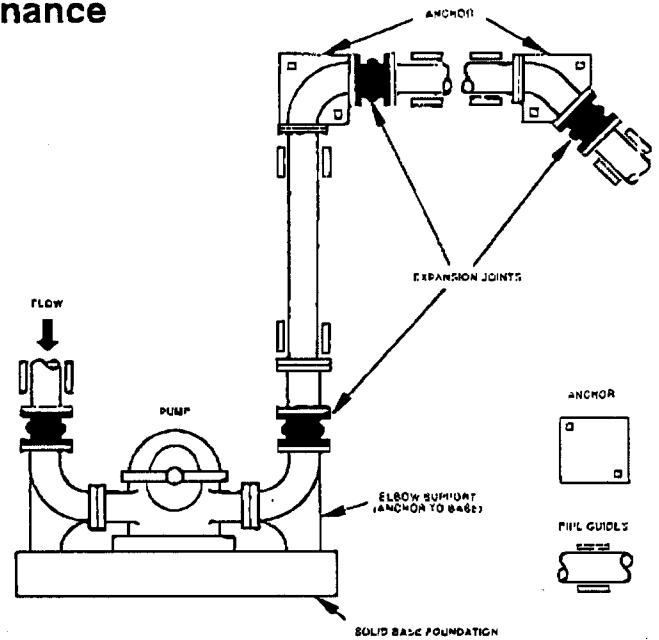
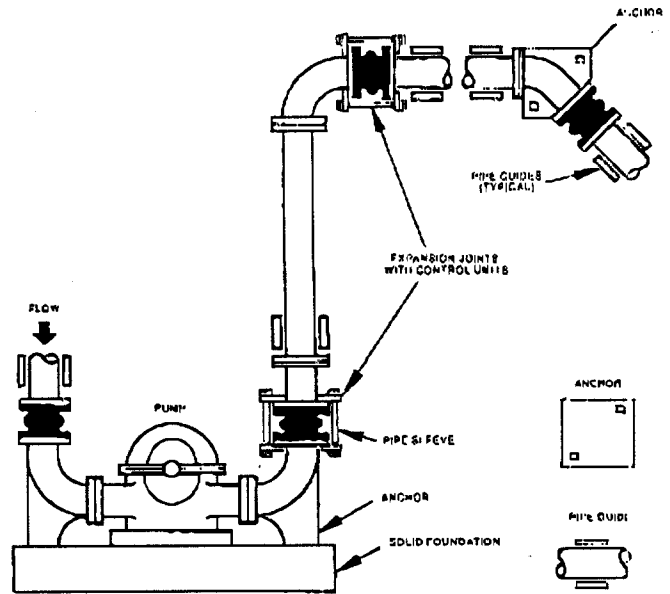

Figure 5A: Typical Piping Layout Utilizing Expansion Joints When Equipment And Piping Are Properly Anchored
Figure 5C: Typical Piping Layout Showing The Use Of Control Units With The Expansion Joints When Proper System Anchoring Is Limited
A.1. Anchors Are Required. Figure 5A illustrates a simple piping system. You will notice that in all cases solid anchoring is provided wherever the pipeline changes direction and that the expansion joints in that line are located as close as possible to those anchor points. In addition, following the expansion joints, and again as close as is practical, pipe guides are employed to prevent displacement of the pipeline. It should be pointed out that the elbows adjacent to the pump are securely supported by the pump base so that no piping forces are transmitted to the flanges of the pump itself. Anchors shown at the 90° and the 45° bend in the pipeline must be solid anchors designed to withstand the thrust developed in the line together with any other forces imposed on the system at this point.
B.4. Illustration of the Use of Control Rods. Figure 5C demonstrates the type of piping connections that must be used in the event it is impossible to employ anchoring. The anchor point at the upper 90° elbow in the discharge line has been eliminated. (It is shown in Figure 5A.) In this situation, it is necessary to employ properly designed control units with the joints located in this non-anchored line. Without the use of these control units, the pipeline between the pump and the anchor, at the 45° bend, would be severely displaced due to elongation in the flexible rubber expansion joint. This elongation would proceed until the joints rupture. The use of control units in this case permits expansion of the pipeline in both the vertical and horizontal direction between the pump and the anchor, at the 45° bend. However, it does preclude the possibility of contraction in these respective lines as the further extension of the expansion joint is impossible because of the control units.